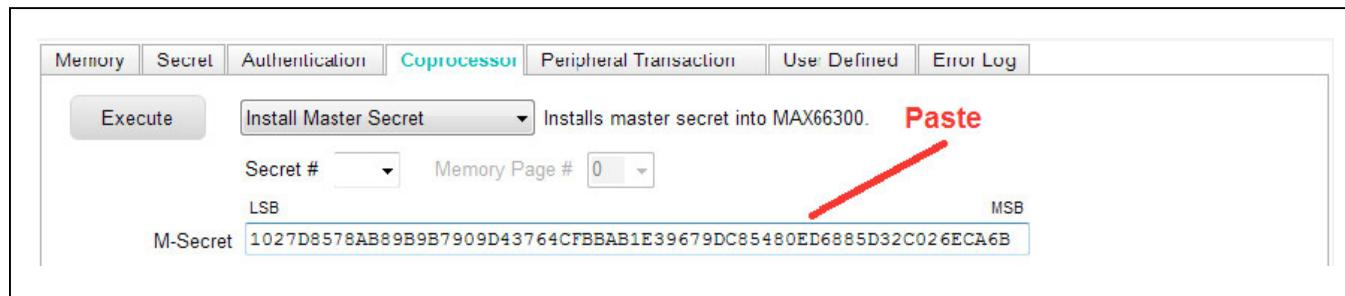

Figure 28. Paste M-Secret
- 24) Paste the clipboard contents into the **M-Secret** using the **Ctrl+V** keys (Figure 28).